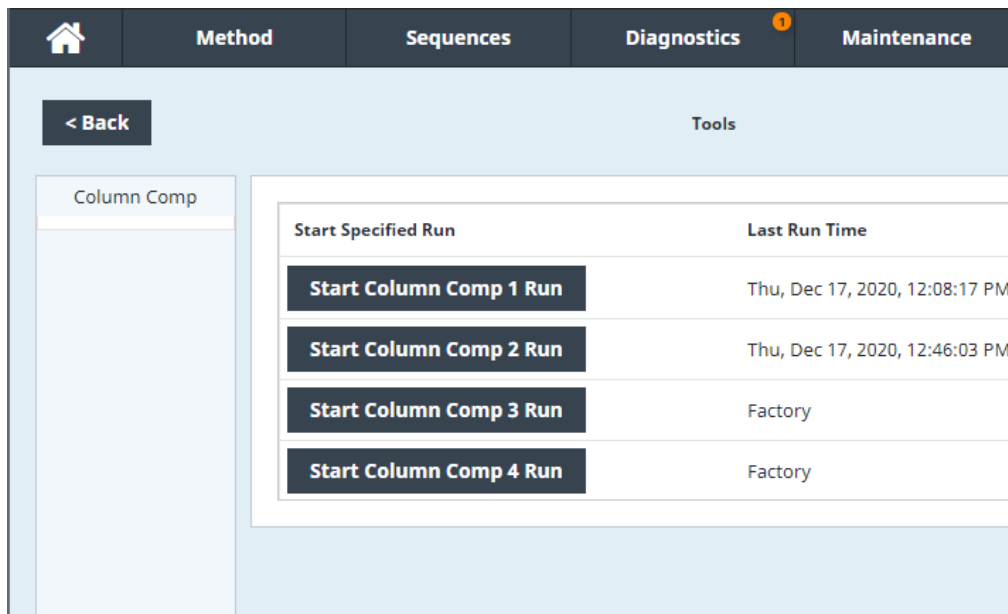

Figure 53 Tools page
The Tools page allows you to perform column compensation runs for the installed columns on the GC. See Figure 53.
- 2 With the Tools page displayed (see Figure 53 on page 126), select the desired **Column Compensation** in the **Start Specified Run** column. The GC performs the column compensation run. No injection occurs as a part of this run.